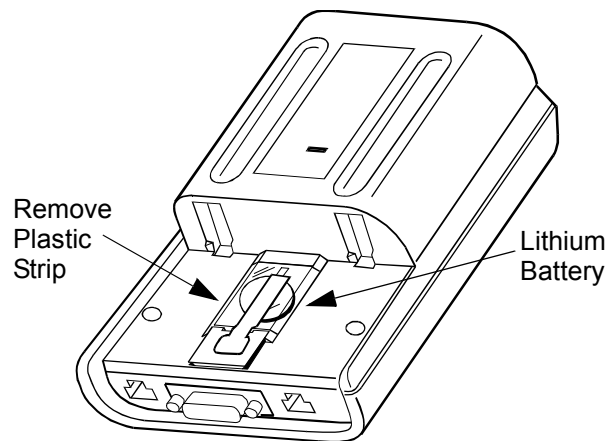

FIGURE 4-3. Removing Strip on Lithium Battery
3. See Figure 4-3 to remove the plastic strip covering the Lithium battery on the back of the tester.